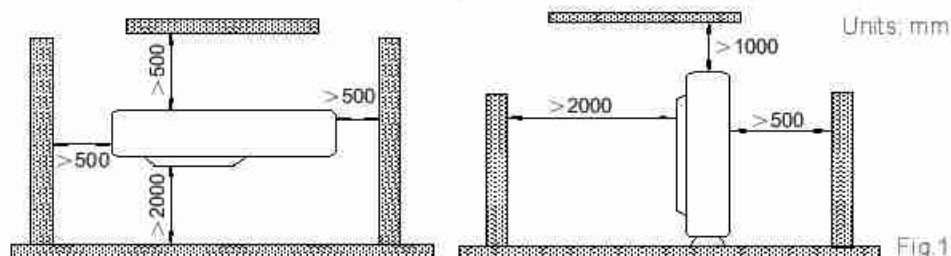

Fig.1
7. Provide the space shown in Fig.1, so that the air flow is not blocked. Also for efficient operation, leave three of four directions of peripheral constructions open.